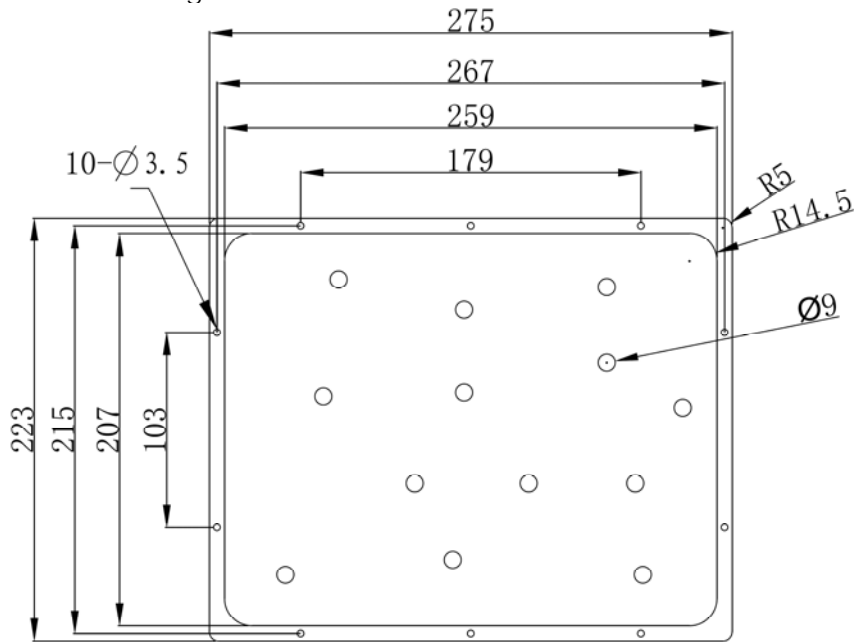

Figure 2
2. The front panel is shown in Fig. 2.